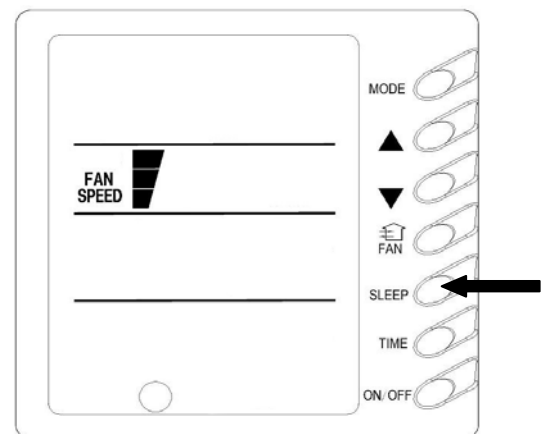

Fig. 3
2) Fan control (Fig. 3) (Shown in the figure is relevant area of display. Same as below).